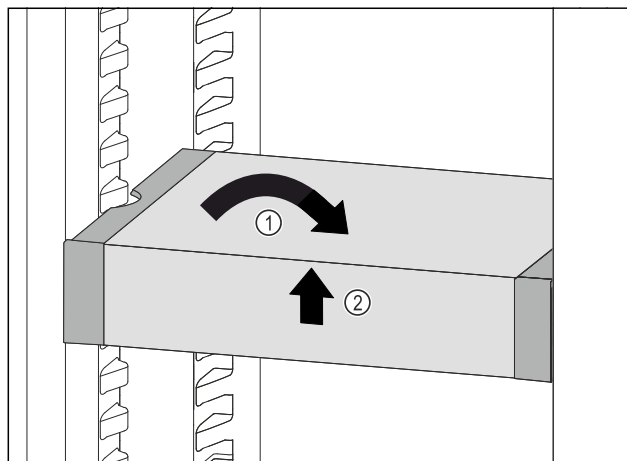

Fig. 127
- ▶ Set VarioSafe straight. *Fig. 127 (1)*
- ▶ Lift VarioSafe at the front. *Fig. 127 (2)*